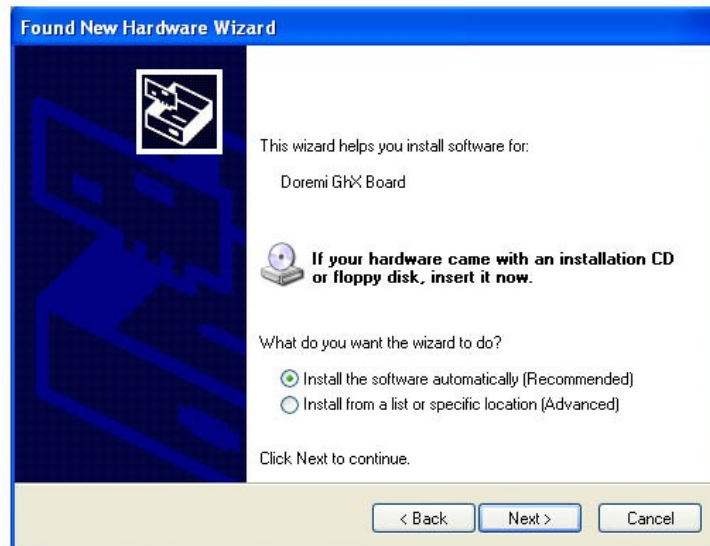

Figure 10: "Found New Hardware Wizard" Window Step 2
- When asked for the type of software installation, choose the option "Install the software automatically (recommended)." See Figure 10 for more information.